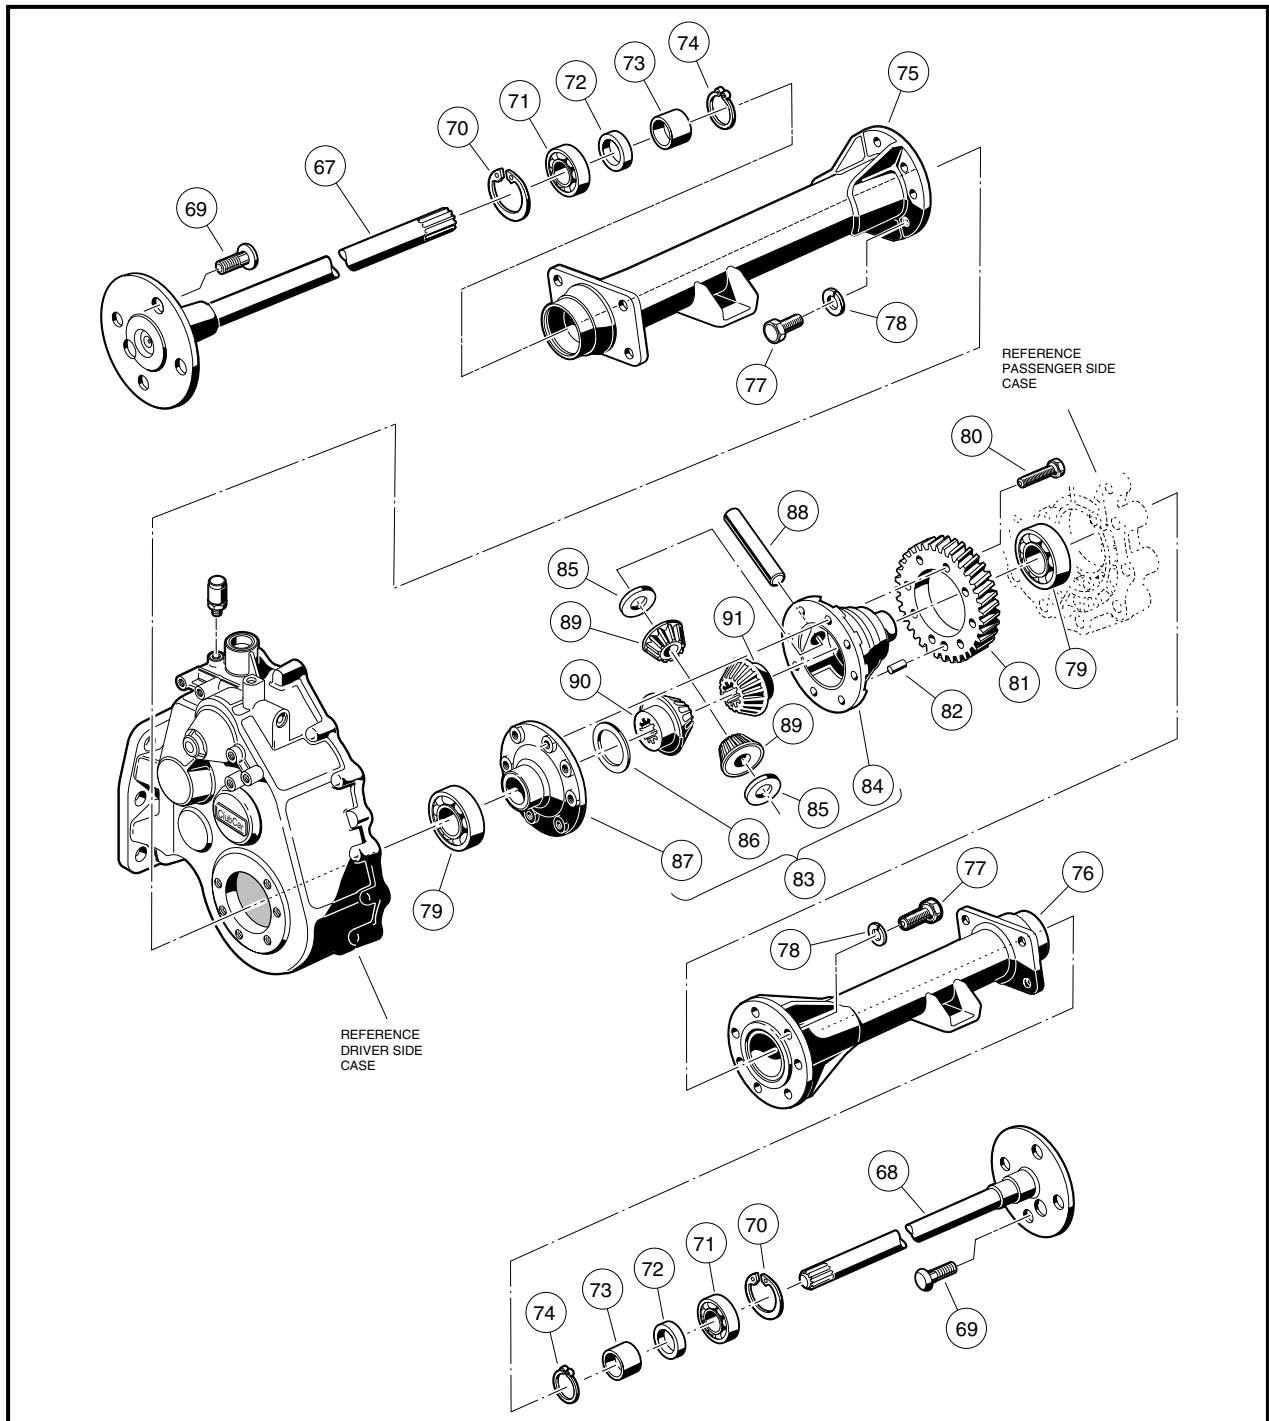
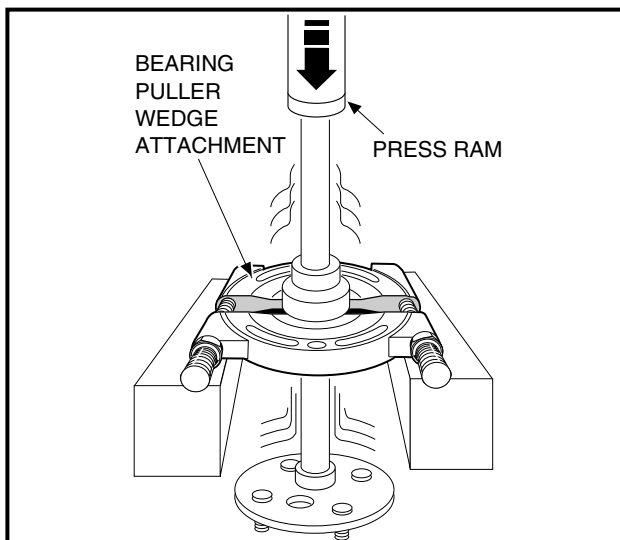
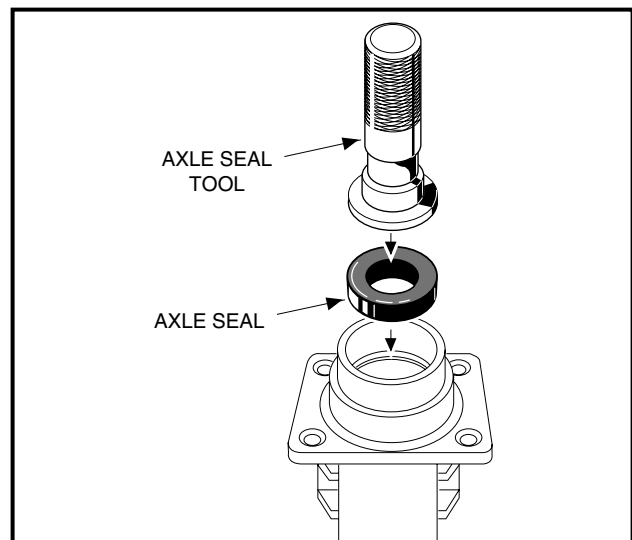
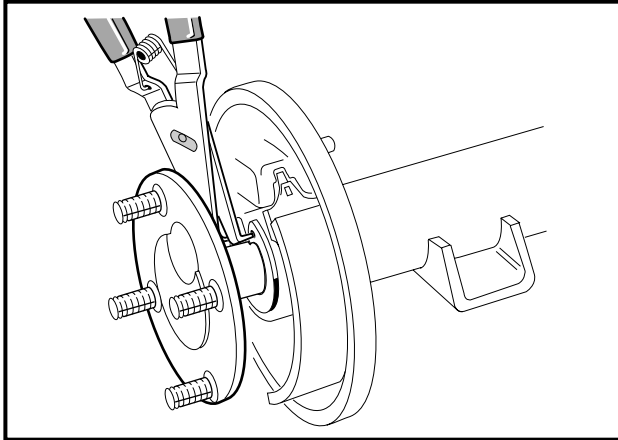

FIGURE 10-6
FIGURE 10-7
FIGURE 10-8
FIGURE 10-9
6. Inspect the axle shaft assembly to be sure that the bearing (71) and collar (73) (**Figure 10-6**) have not slipped and are still seated against the shoulder on the axle shaft.
2. Press the bearing (71) and collar (73) (**Figure 10-6**) off together (**See Figure 10-7, Page 40**).
1. If it was removed, install the retaining ring (70) on the axle shaft (67 or 68) (**Figure 10-6**).
- Place a *new* (sealed) bearing (71) and collar (73) on the shaft (67 or 68) (**Figure 10-6, Page 39**).
- Place the bearing puller wedge attachment against the collar and press both the bearing and collar on, then install the retaining ring (74).
- Clean the bearing and seal seats in the axle tube (75 or 76) (**Figure 10-6, Page 39**).
- Place a new seal (72) (**Figure 10-6**) in the axle tube with seal lip facing away from the bearing. Use an axle seal tool (Club Car Part No. 1014162) to press it in until it seats firmly in position (**Figure 10-8**).
- Using snap ring pliers, install the retaining ring (70) (**Figure 10-6**) in the axle tube (**See Figure 10-9**).